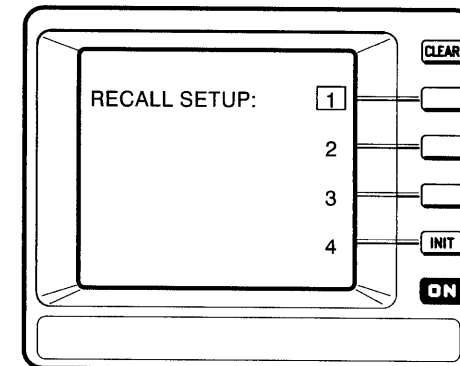

Figure 3-30: The Recall Setup Menu
- Step 2:** Press the button next to the menu item **RECALL**. A new menu appears, as shown in Figure 3-30.